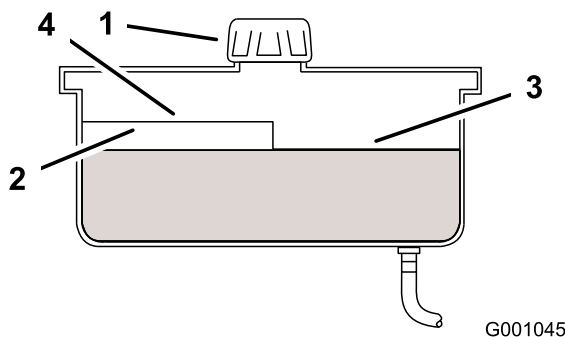

Figure 60
4. Clean area around cap and filler neck of hydraulic tank (Figure 60).
5. Remove cap from filler neck. Look inside to check if there is fluid in the reservoir. (Figure 60).
Note: The fluid level should be to the top of the hot level of the baffle, when the fluid is warm (Figure 60).